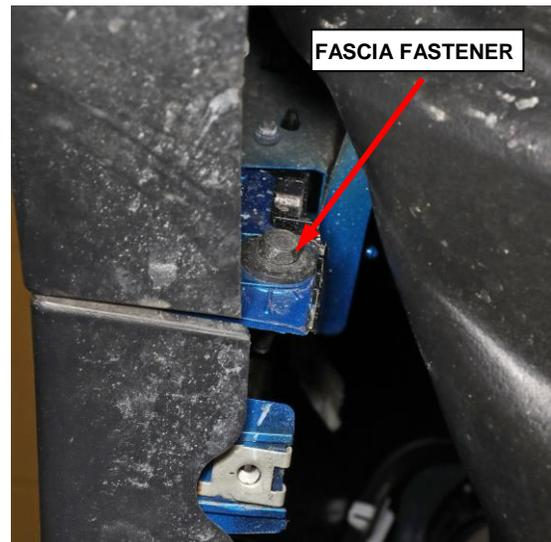

Figure 9 – Fascia to Fender Fasteners
14. Remove the fasteners attaching the sides of the fascia to the fenders (Figure 9).
35. Install the fasteners (1) attaching each side of the fascia to the fenders (Figure 9).